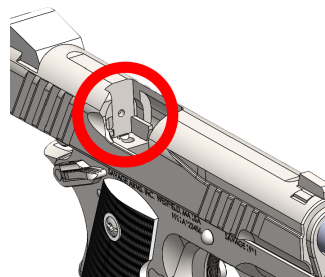

Figure 10
- Examine the breech face to ensure that the firing pin is not protruding – Figure 10. The firing pin may be visible inside the breech face, however it must not be protruding from the breech face. If the firing pin is protruding, do not attempt to load or fire the firearm. Bring it to a qualified gunsmith for service or contact Savage Arms for service.